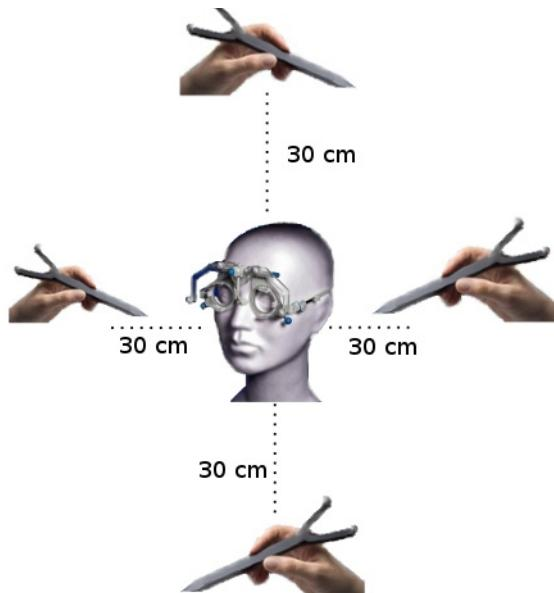

Fig. 10. Assessing the camera positioning
1. Move the digitizing pen around the head (20-30 cm (7.9-11.8 in) distance from the head) in four directions. Move the pen up and down, sideways, and back and forth. See Figure 10.